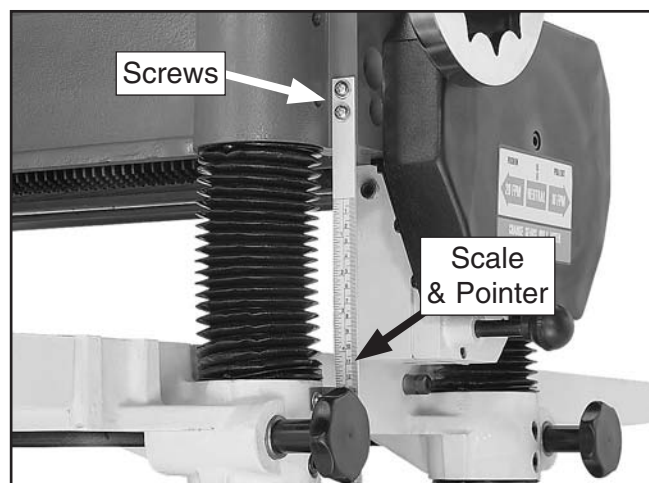

Figure 50. Table height scale.
3. If there is a discrepancy between the board thickness and the reading on the table height scale, loosen the two screws shown in **Figure 50**, adjust the scale in relation to the pointer, then re-tighten the screws.